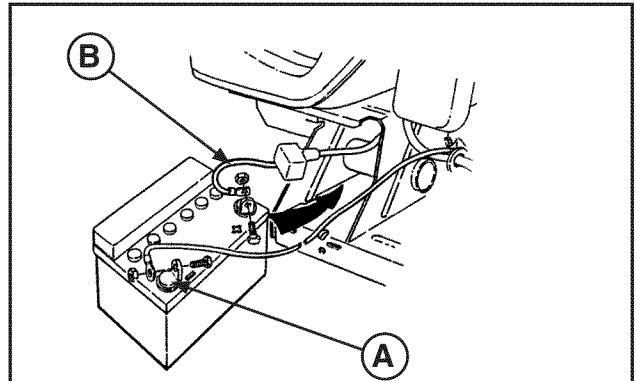

FIGURE 14
1. Disconnect the cables from the battery, negative cable first (**A**, Figure 14).